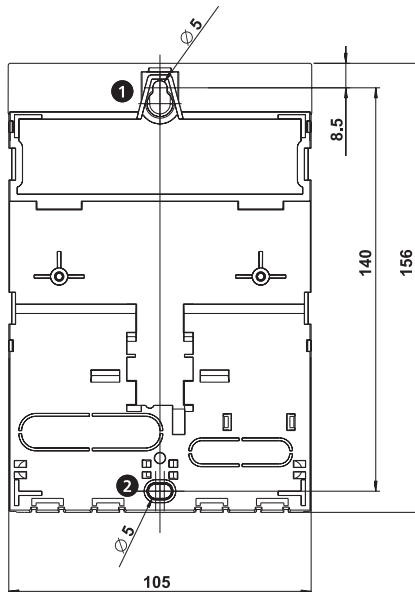

Fig. 2: Rear side of the controller with the upper ❶ and lower ❷ mounting holes
2. Screw in the screw for the upper mounting hole ❶ (Fig. 2) until the screw head has a clearance of 5 ... 7 mm from the mounting surface.
4. Mark the position of the lower mounting hole ❷ through the casing.
6. Hang the controller by the upper mounting hole ❶ and then fasten the screw in the lower mounting hole ❷.